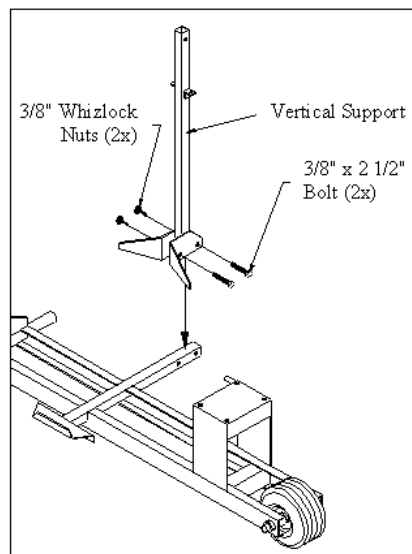

Fig. 7
7. With vertical support (12) in position, slip lower brackets over frame tube. Secure with $\frac{3}{8}$ " x $2\frac{1}{2}$ " bolt and whizlock nut. Do not tighten. **Fig. 7**